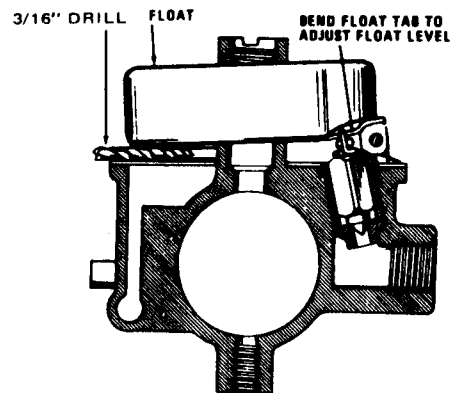

Figure 3
7. Check float level. With carburetor inverted, bottom surface of float should be  $3/16''$  from gasket surface at point on float farthest from hinge (Figure 3). If adjustment is required, use long nosed pliers to bend tab that contacts fuel valve. Be careful to avoid damage to fuel valve or seat.
8. Install throttle stop screw (37) and spring (36). Adjust screw to open throttle slightly.
9. Install idle needle (2) and spring (3). Screw needle in until it seats lightly, and then back out 1-1/2 turns as a preliminary adjustment.